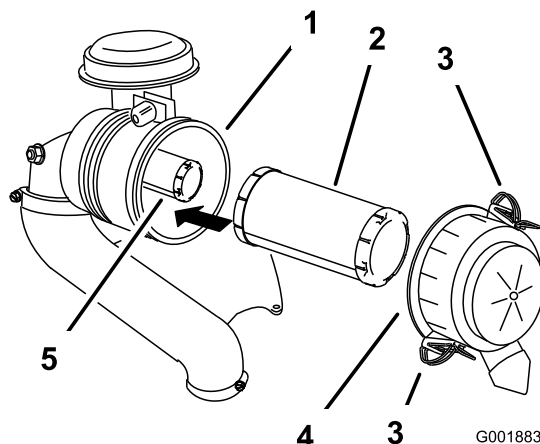

Figure 36
3. Push down to release the retaining clamps on the air cleaner and pull the air cleaner cover off of the air cleaner body (Figure 36).
5. Gently slide the primary filter out of the air cleaner body (Figure 36). Avoid knocking the filter into the side of the body.
1. Do not clean the paper filter, replace it (Figure 36).
2. If the secondary filter is being replaced, carefully slide it into the filter body (Figure 36).
3. Carefully slide the primary filter over the secondary filter (Figure 36). Ensure that it is fully seated by pushing on the outer rim of the filter while installing it.
4. Install the air cleaner cover with the breather cap down and rotate so the retaining clamps lock the cover in place (Figure 36).